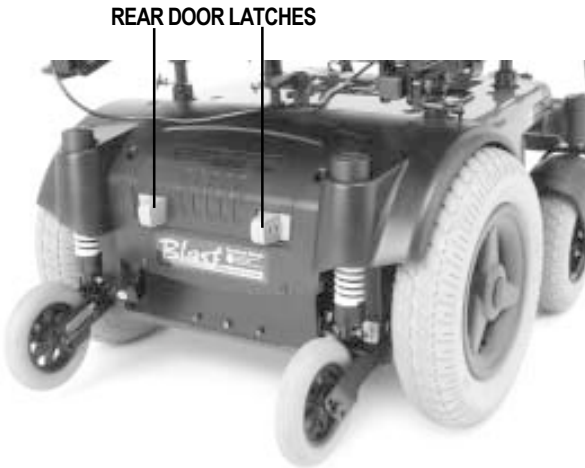

Figure 24. Blast Rear Door
3. Simultaneously press inward the two rear door latches. See figure 24.